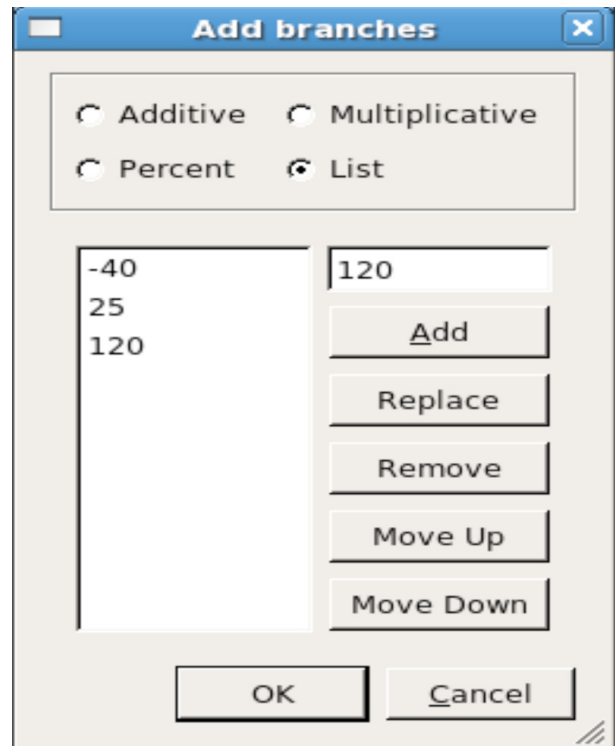

Figure 10. Split tempval.
2. split "tempval" value in -40,25,120. See Figure10,11